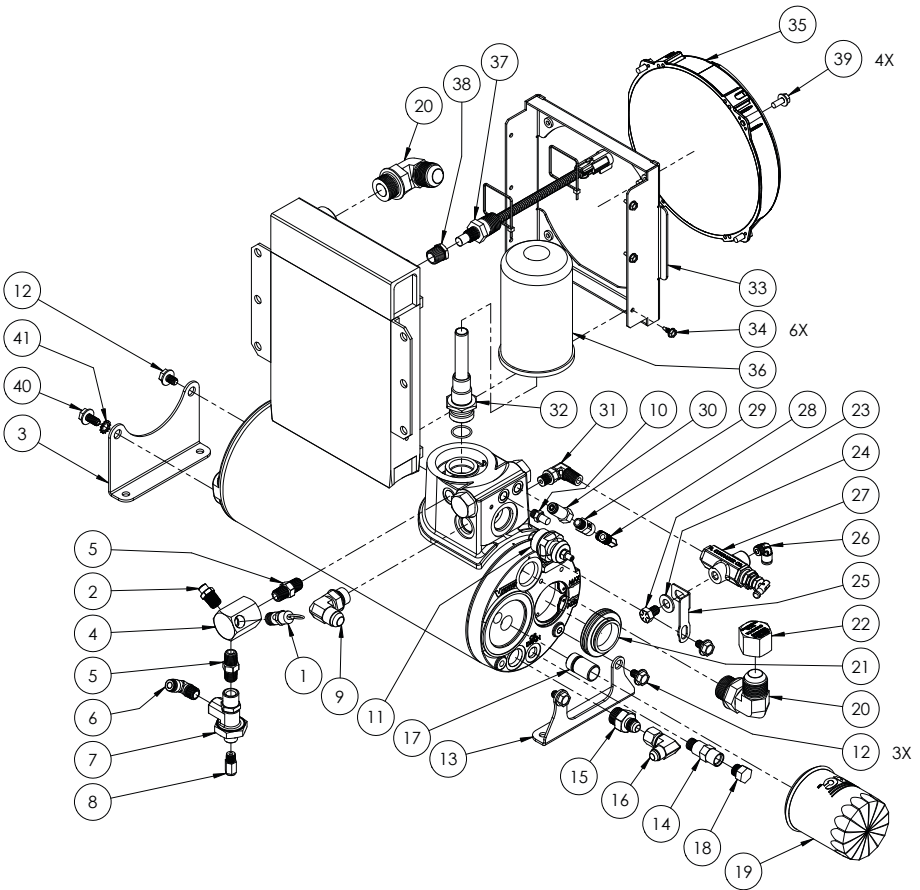

Figure 91 — WHASP Tank
4. WHASP Tank, 9240014 (Figure 91 on page 118)